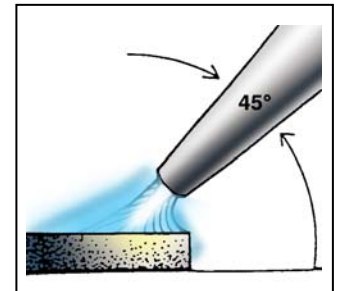

Figure 1
9. Hold the torch at a 45-degree angle, with the inner cone approximately 1/8 in. from the work. Refer to Figures 1 and 2.